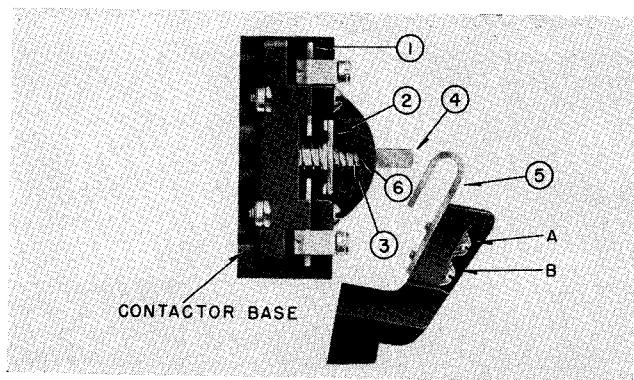
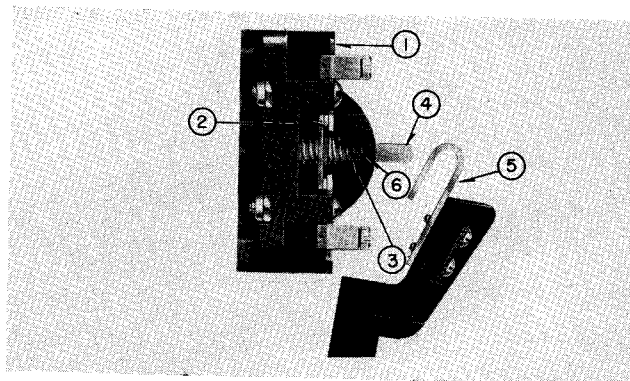

FIG. 2. Normally Open Interlock
FIG. 3. Normally Closed Interlock
This contactor comes equipped with one normally open interlock. By removing this interlock, shown in Fig. 2, and reassembling parts, 1, 2 and 3 per Fig. 3, the interlock is changed from normally open to normally closed contact. The change is simplified by first placing the contactor in the normal vertical operating position and by proceeding as follows:
1. Swing arm (5) out of way by removing screw A and loosening screw B. (See Fig. 2).
2. To detach upper spring (3) from plunger (4) compress inturned end of spring against contact bar (2) and rotate spring until it disengages hole (6).
4. Operate reassembled interlock by hand to check freedom of moving parts before reassembling arm (5) into original position.